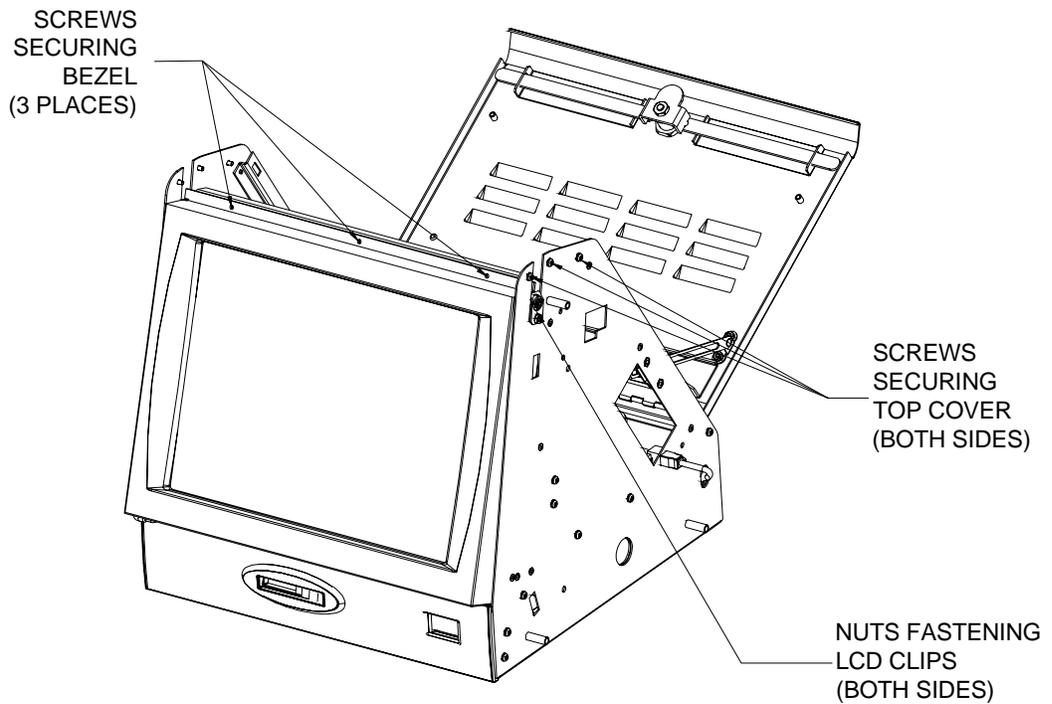

FIGURE 3 - EZ MAXX/MAXX ELITE - TOP COVER/LCD CLIP ACCESS
7. Remove the 3 screws at the top of each side piece fastening the top cover to the game (see Figure 3) and remove the top cover.
8. Loosen the 5/16" nuts securing the 2 LCD clips (one on each side piece). See Figure 3.
10. Remove the 3 screws on top of the front bezel (see Figure 3) and separate the bezel from the monitor.
4. Reattach the front bezel to the monitor with the 3 screws removed earlier. See Figure 3.
6. Tighten the nuts securing the 2 LCD clips. See Figure 3.
8. Replace the 3 screws at the top of each side piece. The shorter screw will go in the screw hole closest to the rear of the game. See Figure 3.